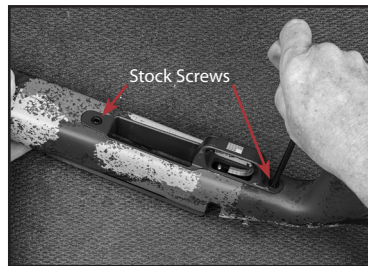

Figure 27-1
4. Remove the 2 stock screws with a 3/16 Hex drive (Figure 27-1).